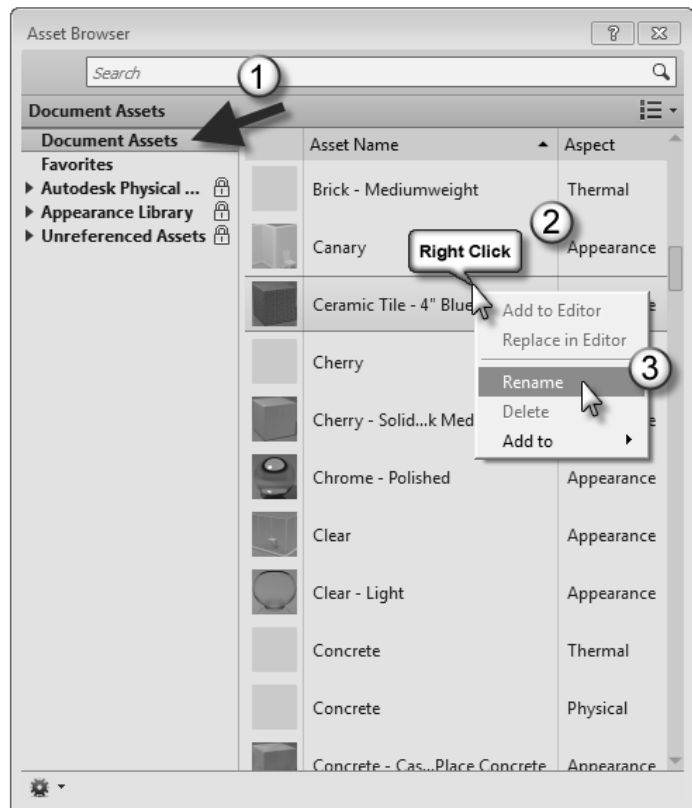

FIGURE 4-4.11 Asset browser – renaming asset
42. *Right-click* on **Ceramic Tile – 4” Blue** and select **Rename** (Figure 4-4.11).